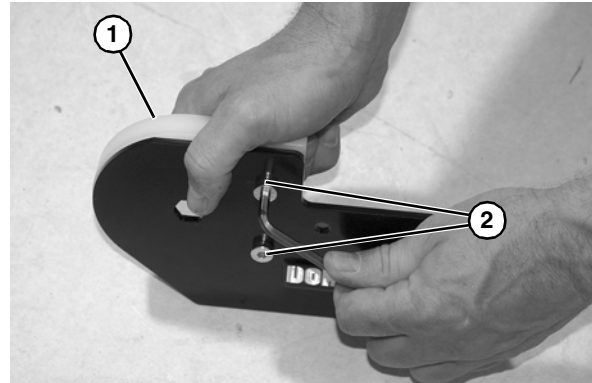

Figure 70
7. Check idler terminal assembly (Figure 70, item 1) for wear. If worn, remove two low head cap screws (Figure 70, item 2) and replace.